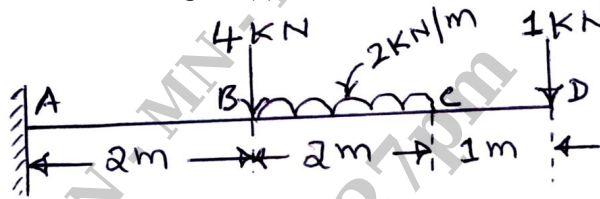

Fig.Q5(c)
c. For the cantilever beam shown in Fig.Q5(c), draw shear force and bending moment diagram.